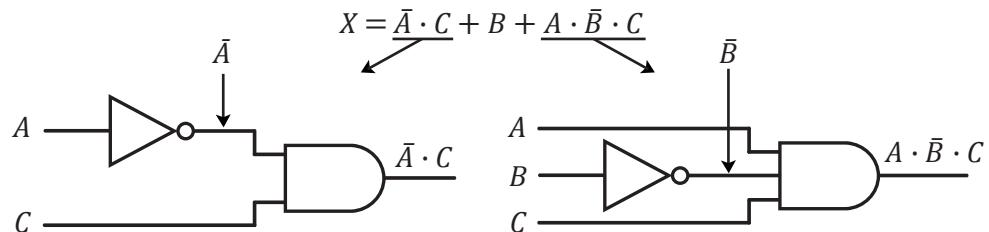

Figure 12.7
Step 1: Draw a logic circuit for each AND term using NOT and AND gates as shown in Figure 12.7.